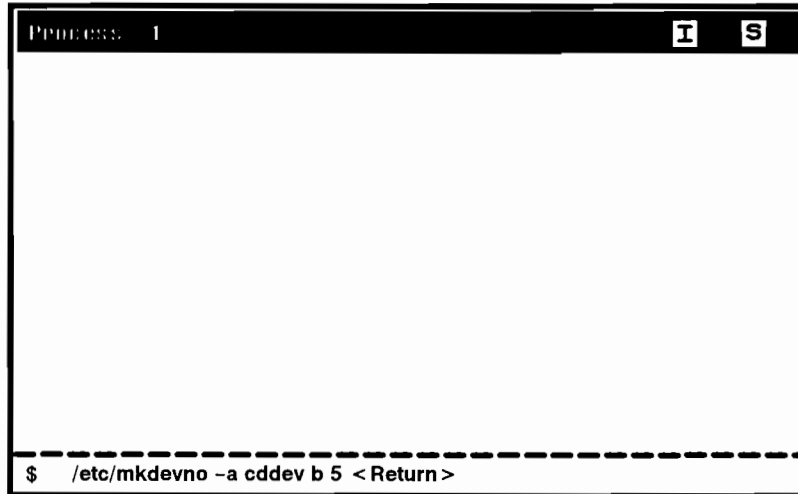

Figure 5-1. mkdevno Command
1. Use the **mkdevno** command to create an entry in the device number table for CD-ROM drives, as shown in Figure 5-1: